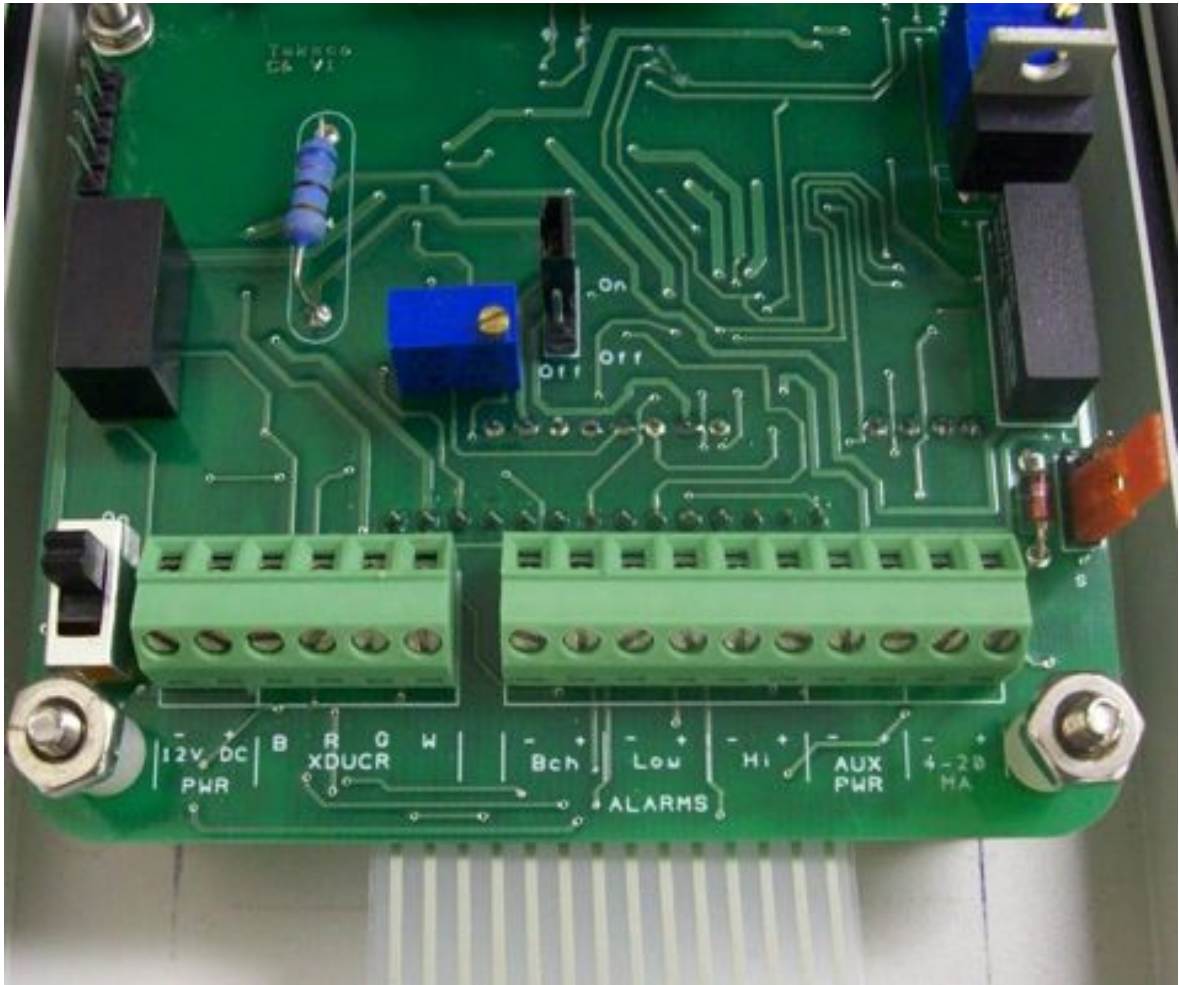
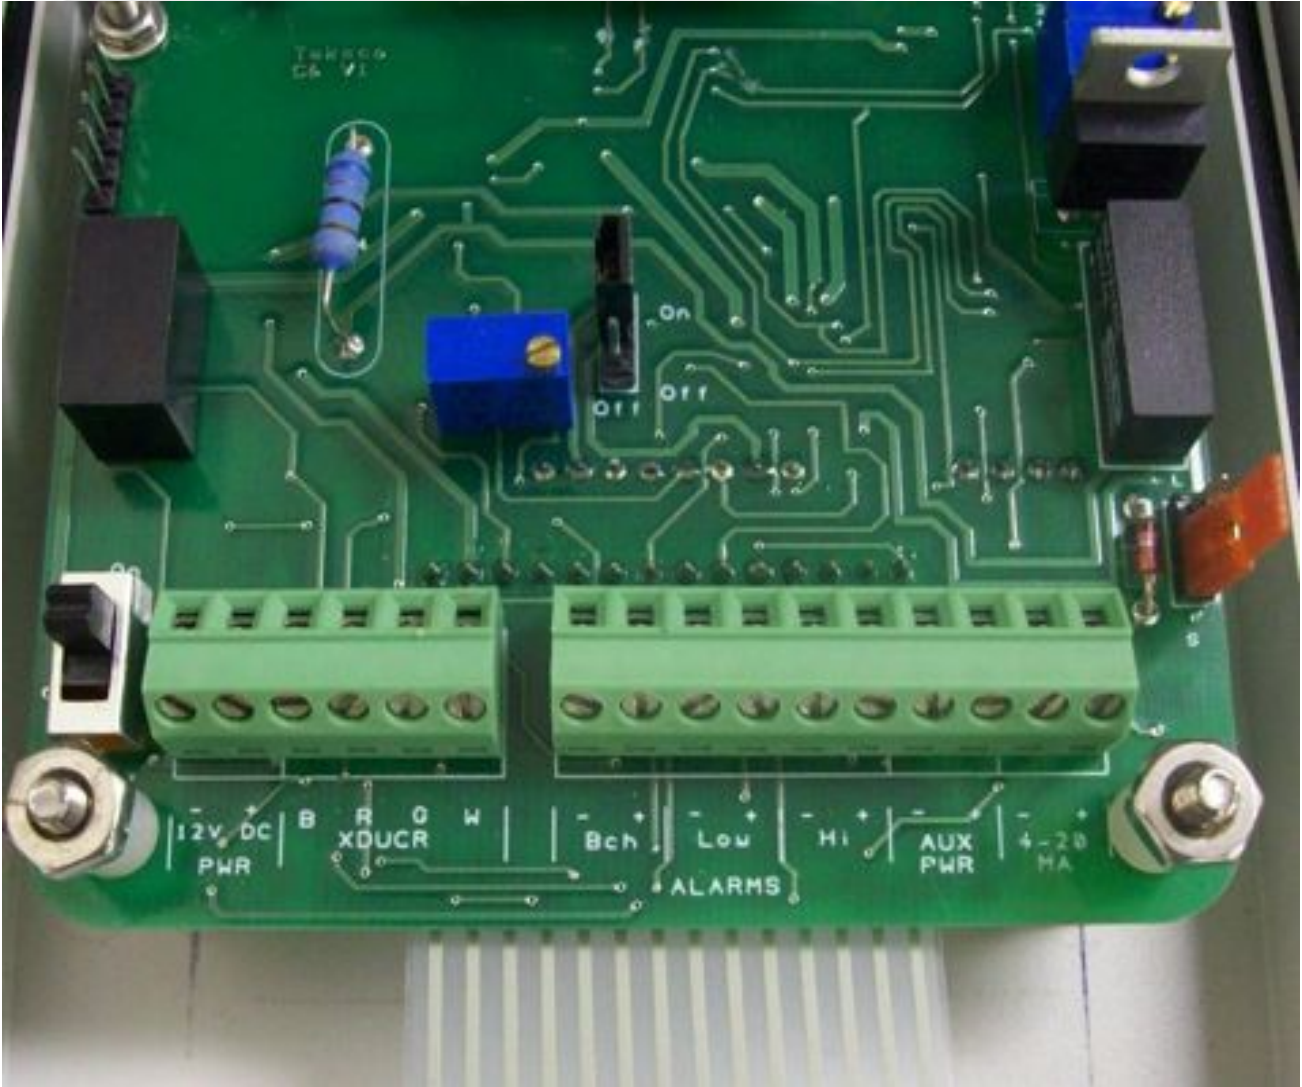

Figure 2-6. Main electronics board connections
Figure 2-8. Another view of processor board connections
1. Ensure AC or battery (DC) input power is turned off.
3. Connect the transducer wires to the processor board as shown in Figure 2-6 on page 2-12 for correct placement. The transducer 4-wire connection is as follows:
- If needed, connect the DC power cable wires to the 12 VDC PWR section of the processor board using Figure 2-6 and Figure 2-8 as a guide.
- Move the switch to the on position. See Figure 2-8 for the switch location.